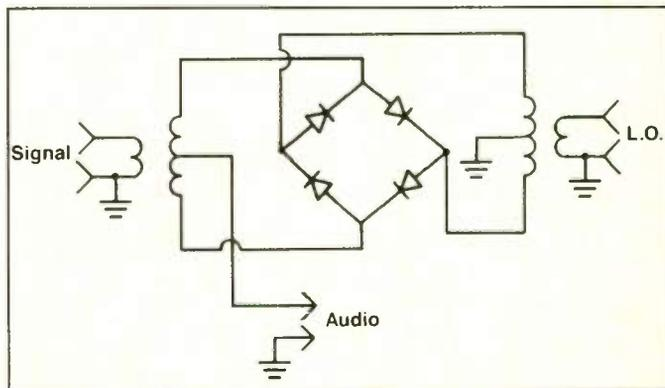

Figure 2. Classic ring modulator or double balanced mixer.
The term $\frac{1}{4}k e_s^2 m^2 \cos 2\omega_m t$ in (12) represents second harmonic distortion caused by square-law detection, and will be ignored. The detected carrier, from (10), will have an amplitude of $kE_o e_s$ and detected AM, from (12), of $k e_s^2 M$. If the modulation index, M, is taken as 1 (100 percent modulation) the AM rejection ratio for a square-law will be seen to be simply E_o/e_s , that is the ratio of the local oscillator to signal amplitudes. So even a square-law detector will perform well as a product detector if the signal amplitude is kept small compared to the local oscillator amplitude. The mathematical analysis of a linear envelope detector is not as simple as the square-law detector but experimental results have shown that the linear detector also has an AM rejection ratio of approximately E_o/e_s . The classic PD is the ring modulator shown in Figure 2. With proper balance, such a detector can theoretically provide infinite AM rejection. Response will be linear for signals up to a level of about 10 dB below the LO input level. The ring modulator has the disadvantage of requiring large amounts of LO injection, balanced signal and LO inputs, and a conversion loss of about 6 dB.